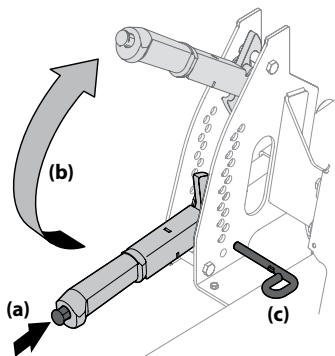

Figure 3-11
1. Depress the button at the end of the deck lift lever (a), raise it into the transport/highest mowing position, hang the top hook from the upper spacer on the deck height index bracket (b) and then remove the pin (c). See Figure 3-11.